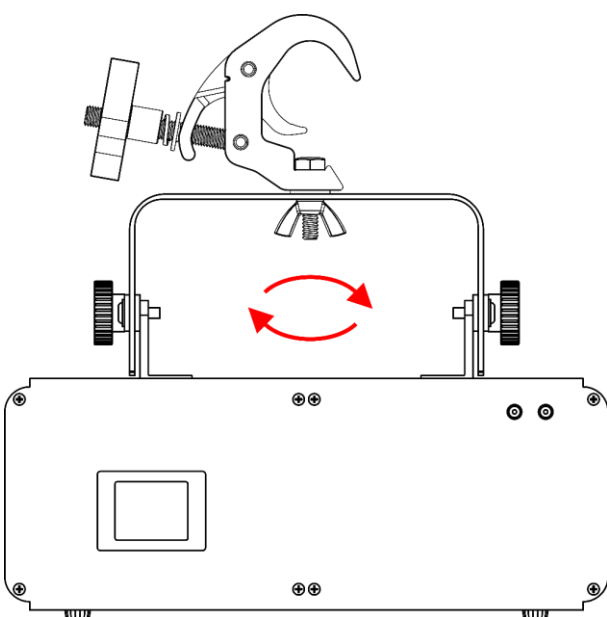

Fig. 05
02) Turn the **hex nut (05)** counterclockwise, to remove it.
03) Turn the **wing nut (04)** counterclockwise, to remove it.
04) Attach a load to the **hex bolt (06)** and secure it in one of the 2 ways:
- Temporary installation: Put the **wing nut (04)** on the **hex bolt (06)** and turn it clockwise, to tighten the load (Fig. 05).